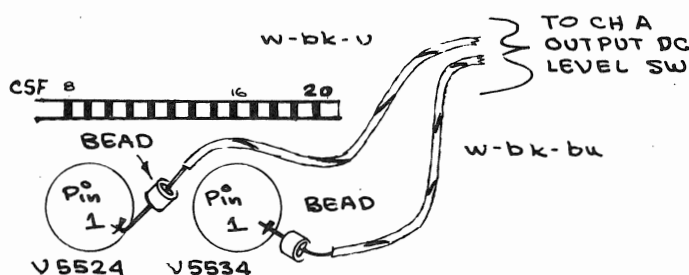

FIG. 2
**PRODUCTION CHANGE:** The grid leads were removed from the ceramic strips where they connected to the grids through 47Ω resistors (R5520, R5530, R5570, R5580) and connected directly to the tube socket pin connections (pin 1). Ferrite beads were added over the leads to take the place of the 47Ω resistors (see Figs. 2 and 3).
Refer to Fig. 2 when replacing the following wires: